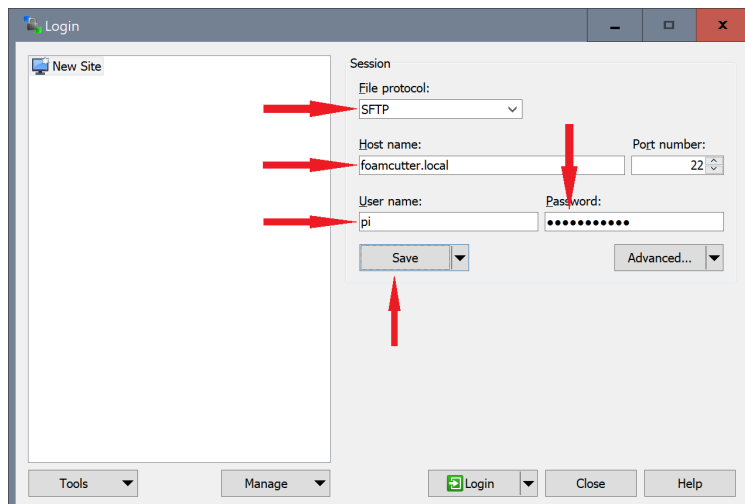

Figure 1.5: WinSCP Setup
3. As shown in fig 1.5 below, make sure the protocol is "SFTP", then enter "foamcutter.local" for the host name, "pi" for the user name, and "ucsdaiaadbfi" for the password.